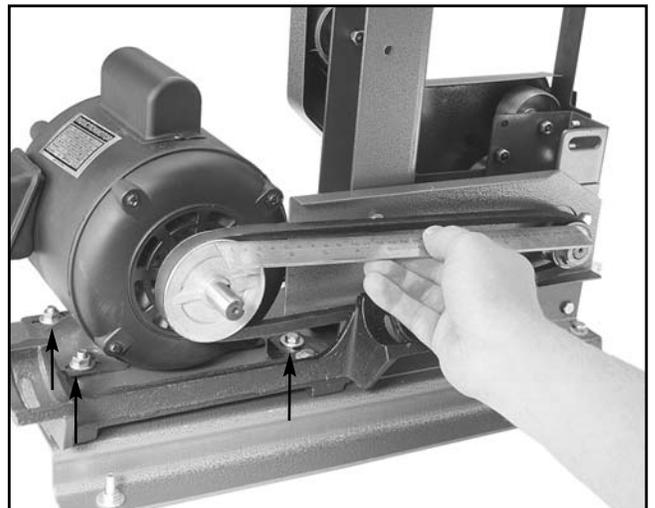

Figure 8. Inspecting pulley alignment.
- Set a straightedge across the edge of both pulleys and adjust the position of the motor to correct the pulley alignment. The straight-edge should evenly touch each pulley when they are aligned. **See Figure 8.**